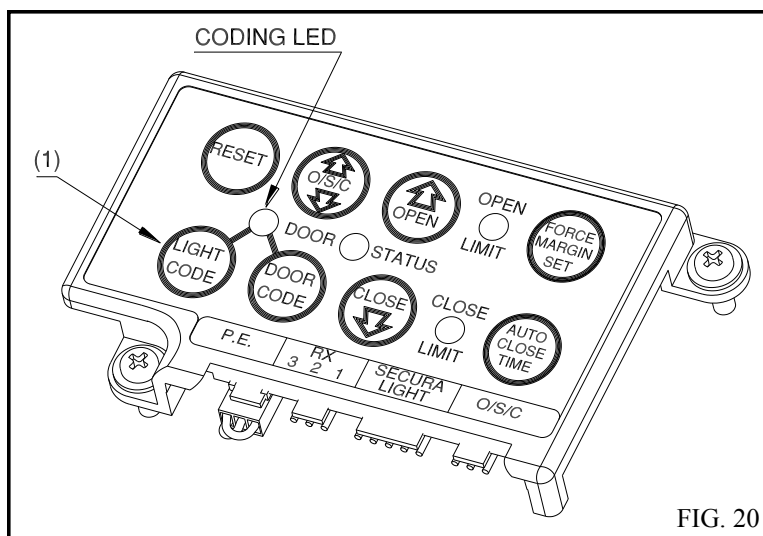

FIG. 20
1. Press and hold Light Code button 1 on the Control Panel (FIG. 20).